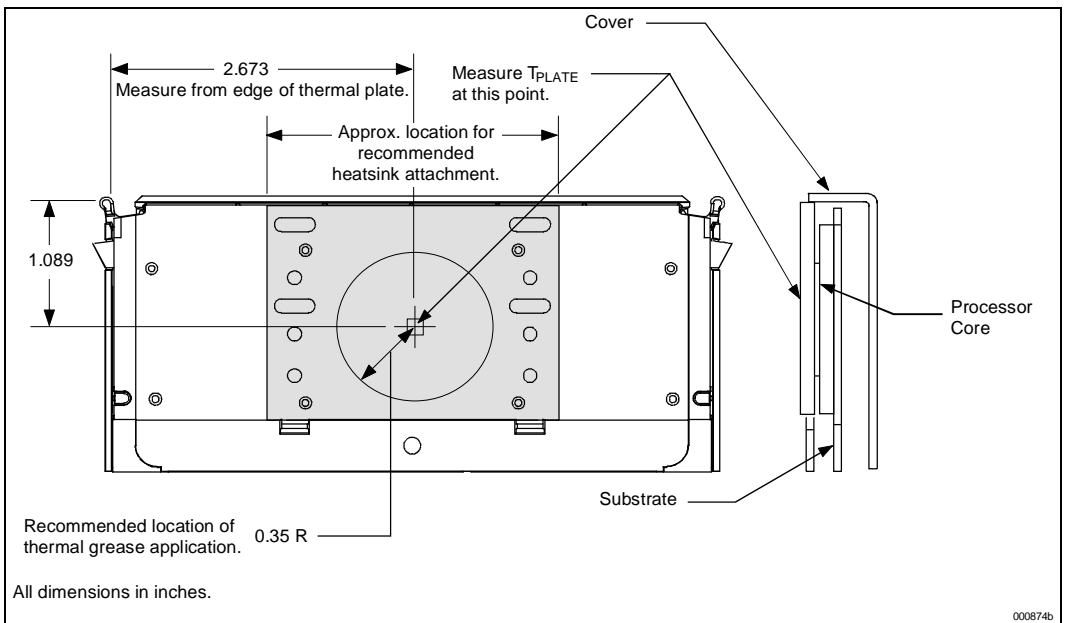

Figure 19. Processor Thermal Plate Temperature Measurement Location
To ensure functional and reliable Pentium II processor operation, the thermal plate temperature (T_{PLATE}) must be maintained at or below the maximum T_{PLATE} temperature specified in Table 20. Figure 19 shows the location for T_{PLATE} measurement.
- Attach the thermocouple bead or junction to the top surface of the thermal plate at the location specified in Figure 19 using high thermal conductivity cements.